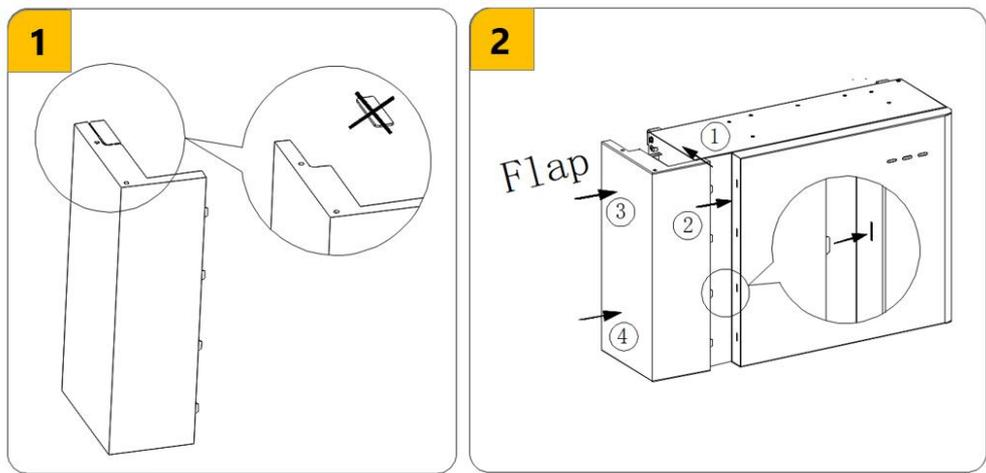

Figure 6-34 Install the cable cover for the battery
1. Mount the cable cover of the battery, Refer to 1-2 in Figure 6-34.